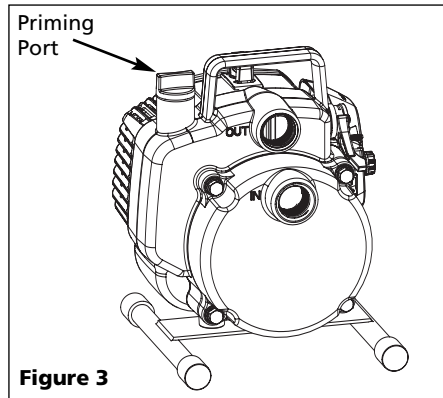

Figure 3
7. Add water to the priming port on the pump (See Figure 3). Continue adding water until the water level reaches the top [approximately 1 quart (1 liter)]. Install the priming plug. The water in the pump will create the suction that primes the pump.